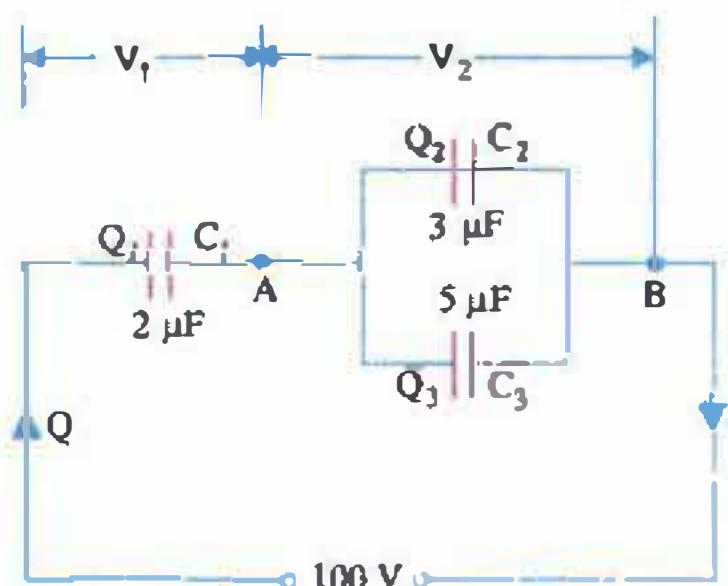

Fig. 5.37
**Example 5.9.** Find the charges on capacitors shown in Fig. 5.37 and the P.Ds. across them.